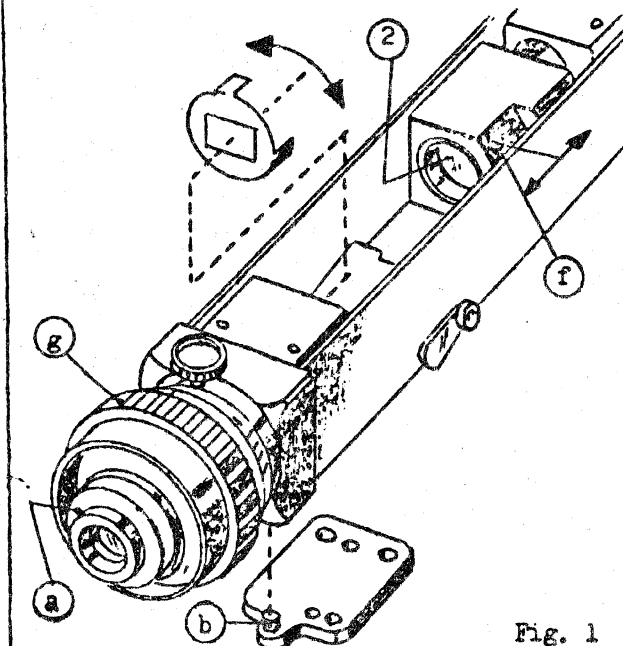

Fig. 1
1. Reflex Viewfinder (Fig. 1)
1.2 Adjusting the eyepiece (Fig. 1)